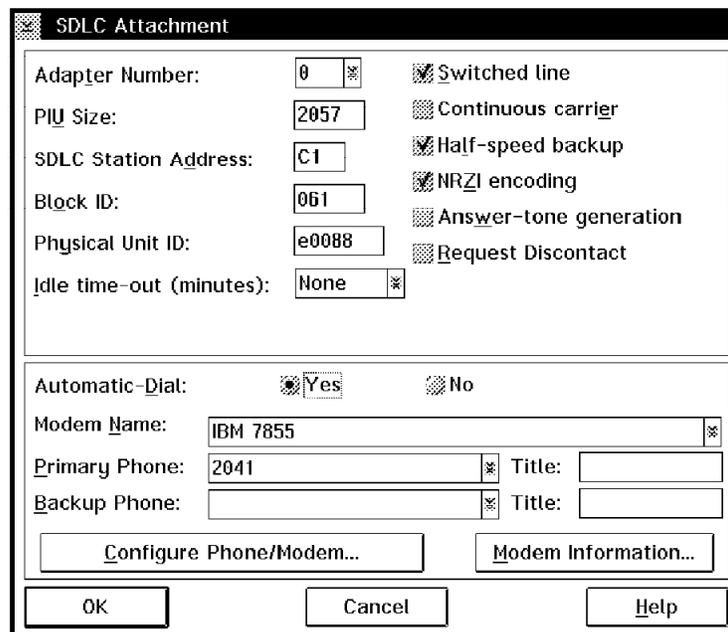

Figure 233. SDLC Link Parameters Window - SDLC Attachment - Windows 3.1, OS/2
Click on **Synchronous Data Link Control** to get the SDLC Attachment panel shown in Figure 233.
For a switched line, select **Switched** for the Line type field in Figure 231 on page 210 for DOS (full-function mode). In Windows 3.1 or OS/2, enable the **Switched line** box in Figure 233
SDLC station address (C1), PIU size (2057), Physical Unit ID (E00088), and Block ID (061) must match the ADDR, MAXDATA, IDNUM, and IDBLK parameters respectively of the VTAM switched major node for SDLC switched connection (see Figure 233 on page 211 and Figure 234 on page 213).
The Automatic-Dial facility field shown in Figure 233 on page 211 allows the use of V.25bis Auto-dialing support if you select **V.25bis**. See 9.12, "CCITT V.25bis Auto-Dialing for SDLC" on page 233 for details.